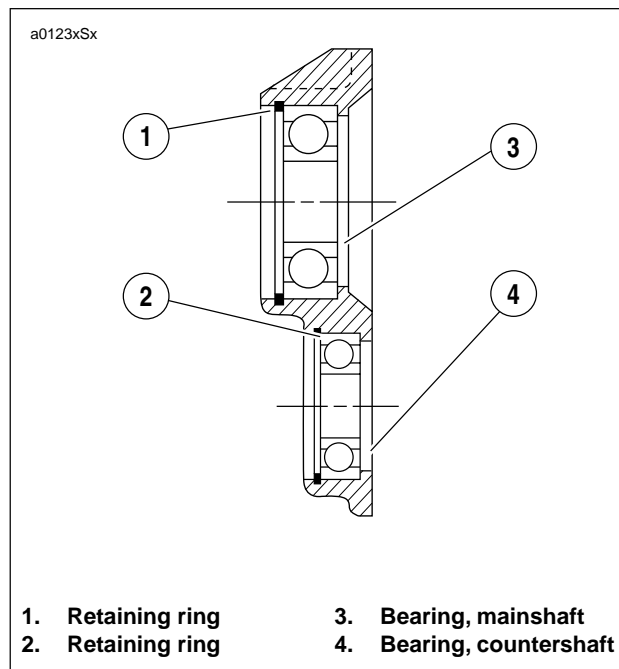

Figure 6-73. Ball Bearing Assembly
5. See Figure 6-73. If bearing replacement is required, remove retaining rings (1, 2) using snap ring pliers (Snap-On Part No. PR-36). Press out bearings (3, 4) from the inside of the crankcase.